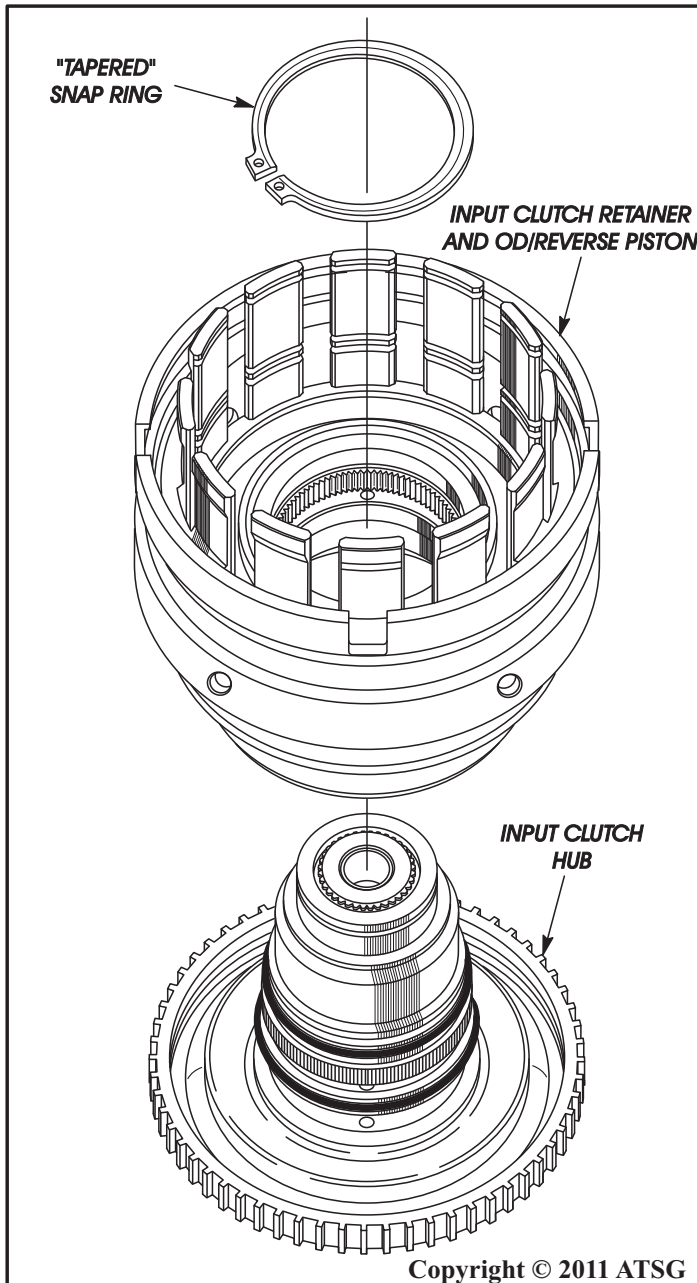

Figure 99
15. Install input clutch retainer and OD/Reverse piston assembly onto the input clutch hub, as shown in Figure 99.
16. Install the input clutch retainer *tapered* snap ring, with the *tapered side facing up*, into the groove in the input clutch hub as shown in Figure 99.